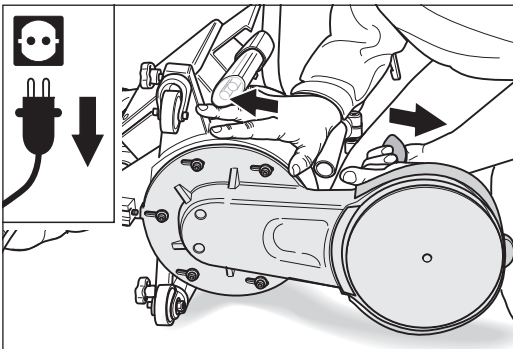

Fig. 60 Use the handle to pull the attachment forward until you feel the belt resistance.
- 5 Push the attachment all the way back. Use the machine handle to pull the attachment forward again until you feel the resistance caused by the V-belt (fig. 60). To prevent damage to the floor, make sure that the attachment does not touch the floor!